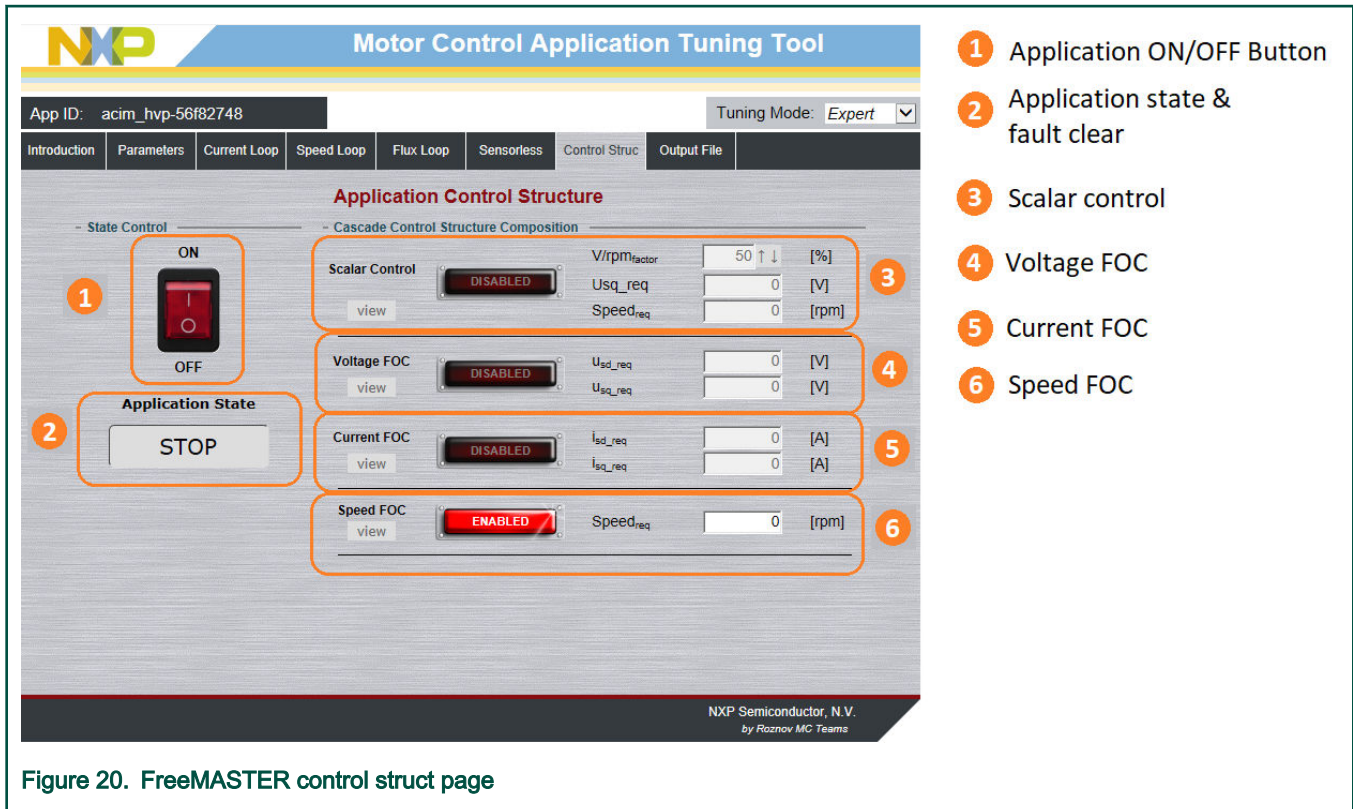

Figure 20. FreeMASTER control struct page
- To start the motor, set up the required speed in the "Speedreq" box (Figure 20 – point 6).
- In case of a fault, click the fault notification to clear the fault (Figure 20 – point 2).